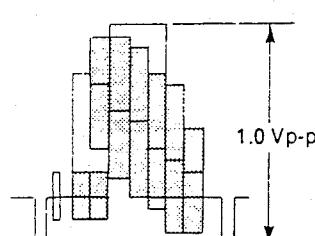

Figure 2-7.
2. Play the colour bar portion of the alignment tape and adjust R201 so that the signal amplitude is measured 1.0 Vp-p on the oscilloscope as shown in Figure 2-7.